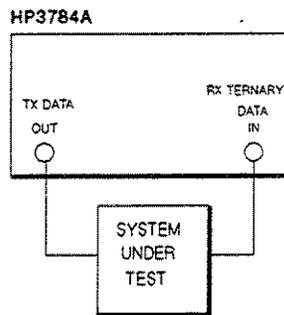

Figure 3-5 Equipment Setup
1. Connect the equipment as shown in Figure 3-5.